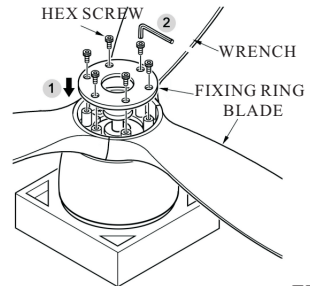

FIG.3
3. Align the hole of fixing ring with blade, and use the hex screws and wrench to assemble the fixing ring with blade.(See Fig.3)
- Step.2. Attach the metal plate and wall plate to the existing wall outlet box with 4 screws provided. Then place the plastic plugs into the wall plate. (FIG.3)